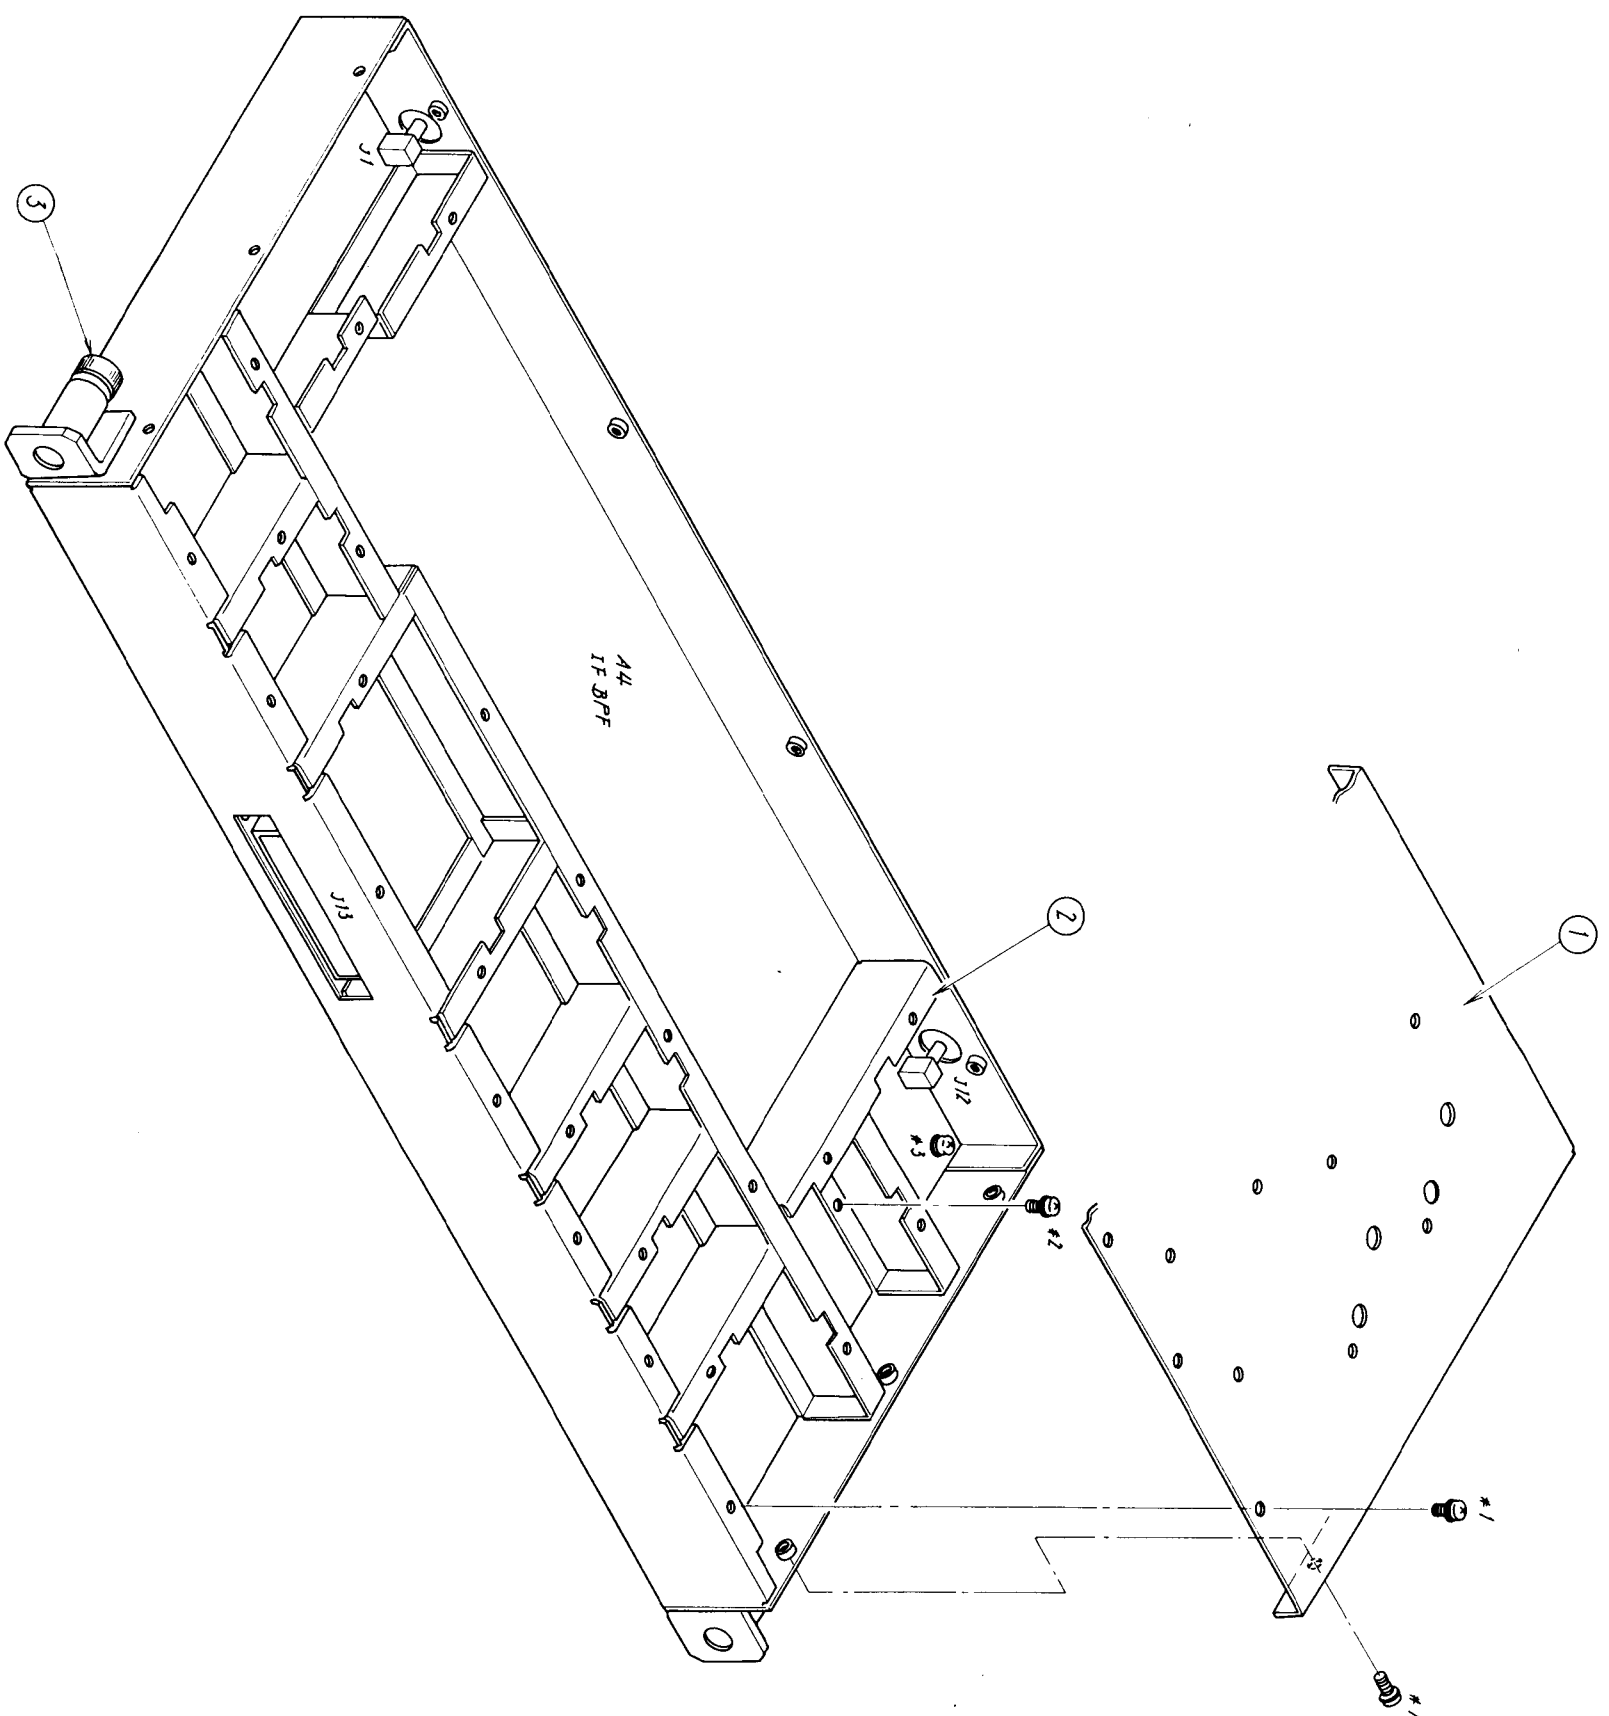

Fig. 5-17 A4: IF BPF
5.9 Disassembling A4: IF BPF (Fig. 5-17)